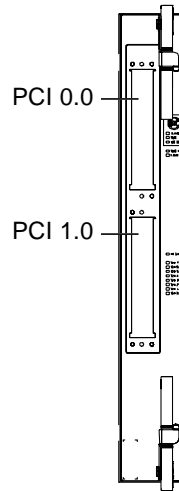

FIGURE 16 PCI Slot Numbering
1. Determine the slot for installing the PCI card (FIGURE 16 on page 15).